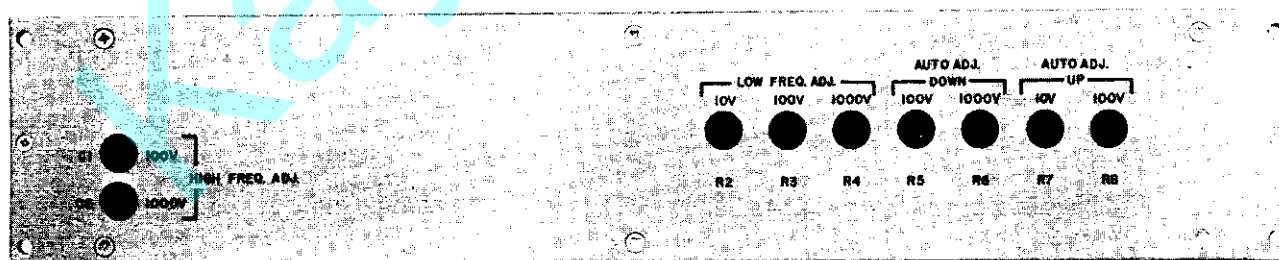

Figure 4-3. Location of Calibration Controls made Accessible by Removal of Front Panel.
12. During the calibration procedure, the top and bottom covers of the converter should be in place. However, the front panel is removed to provide access to these controls. The front panel may be removed by detaching the handles. Adjustment controls are labeled on the inside panel as shown in Figure 4-3.